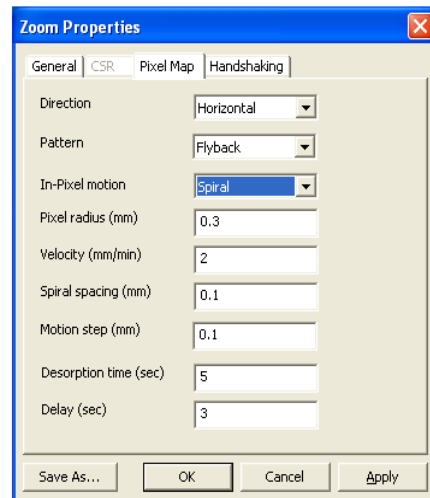

Figure 8 Pixel Map Properties
3. Choose the necessary properties for the data in the **Pixel Map** tab; the properties should be specified to the user’s needs. Figure 8 shows a screenshot of the default settings: